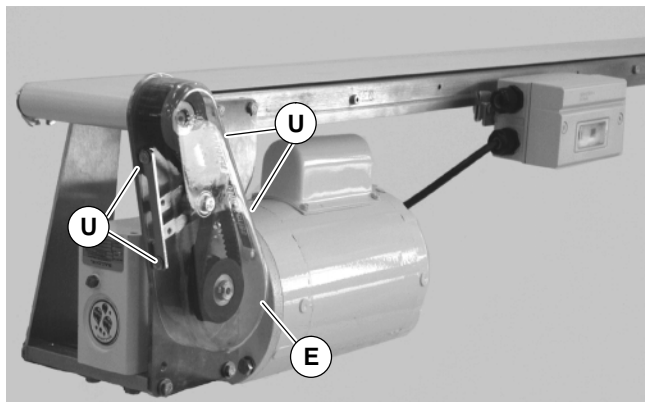

Figure 23
- Attach cover (E of Figure 23) with four (4) screws (U). Tighten to 35 in-lb (4 Nm).